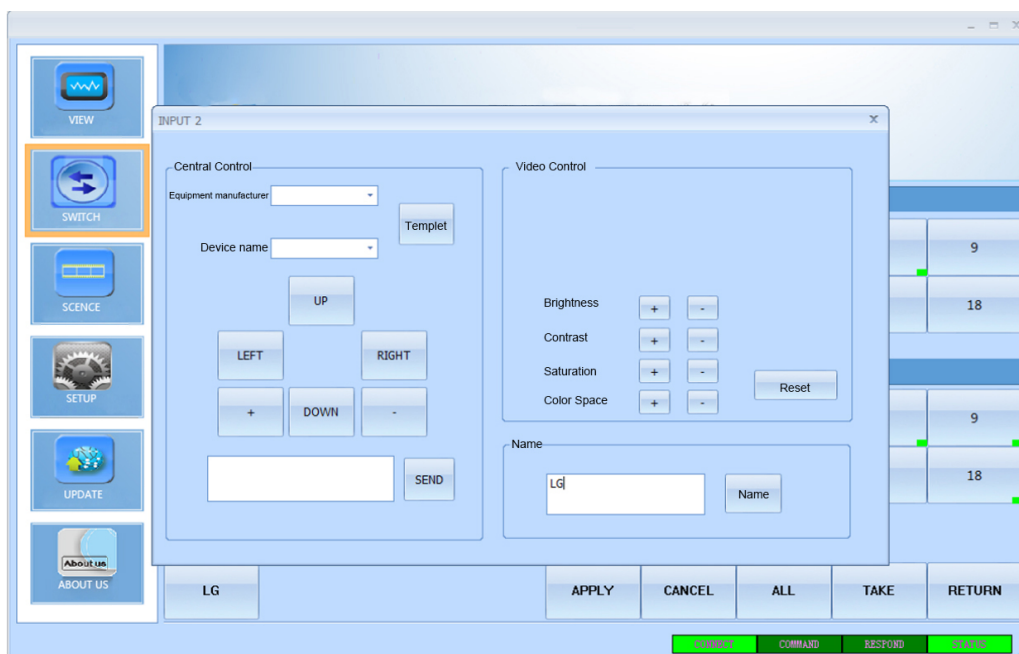

Figure 6.5.1 Input card central control, video control, name operation interface
1) **Input card**:double click the input signal in "SWITCH " interface, pop-up interface in figure 6.5.1 , in "control" column in which we can control the camera and other equipment connected to the card(**this function needs to ask suppliers for relevant information, command sent form see table 1**). The video control column can adjust the brightness and contrast of the input card, and the operation of the card reset. In the name column, we can enter a new name, and click "name" to change the name of the current input signal.